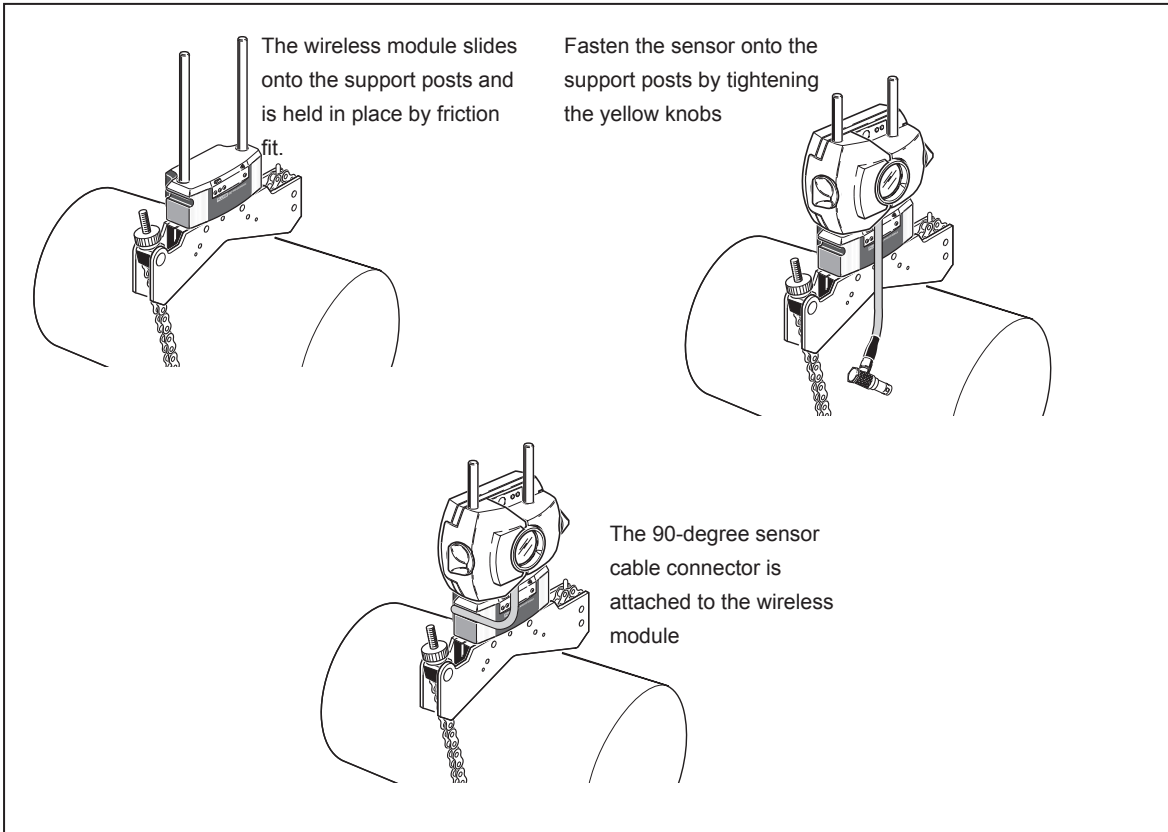

Figure 7-2. Mounting wireless module and sensor
1. Mount the wireless module on the support posts of the bracket fixed on the shaft of the **left machine** (usually stationary machine) – as viewed from normal working position. The module fastens on the support posts. It is recommended to slide the wireless module all the way down onto the bracket frame (see Figure 7-2).
2. Mount the sensor on the same support posts as the wireless module. Ensure that its yellow knobs are loosened enough to allow the sensor slide onto the support posts. Lower the sensor as close to the wireless module as possible (refer to Figure 7-2).
4. Connect the sensor to the wireless module using the wireless module cable (see Figure 7-2).